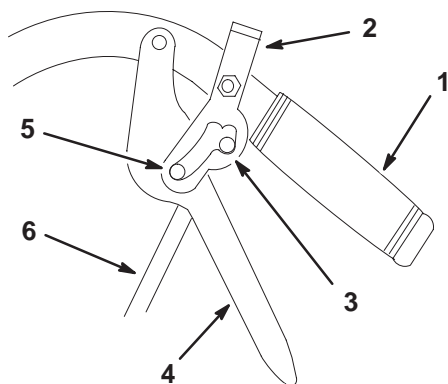

Figure 45
1. Adjust the rod length by releasing the drive lever and removing clevis pin. Rotate the rod in the rod fitting (Fig. 45).
5. Place the hairpin back into clevis pin (Fig. 45).